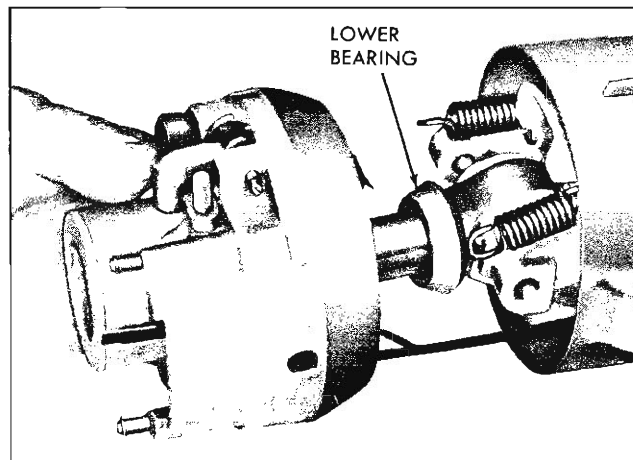

Fig. 35—Installing Actuator
8. Install the lower bearing on the upper shaft (fig. 35).
11. Install the tilt lever and, holding the lever back to prevent lock shoes from engaging the locking pins, install actuator carefully over shaft, then release lever (fig. 35).